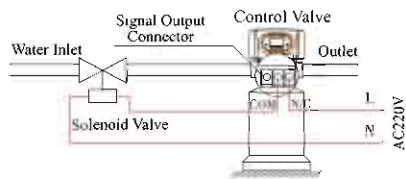
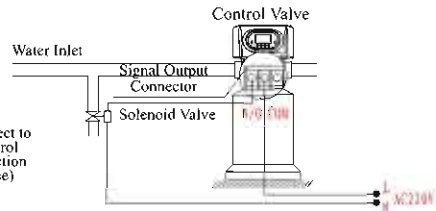

Figure 3-2 Wiring of Solenoid Valve on Inlet
Figure3-3 Wiring of Pressure Relief Port
**Instruction:** When inlet pressure exceeds 0.6MPa, install a solenoid valve on inlet. Control mode is b-02. Pressure relieved when valve switching, the wiring refer to Figure 3-2. As Figure 3-3 shows, it also can use the pressure relief port to work.